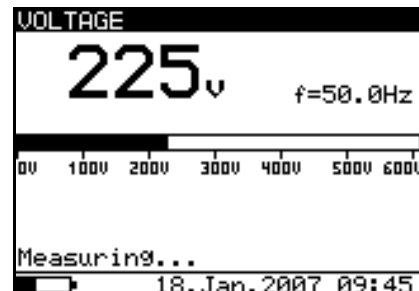

Fig. 14: Screen of measured value
6. Press again the **START/STOP** to stop the measurement. The result of test is shown at display (see Fig. 14)